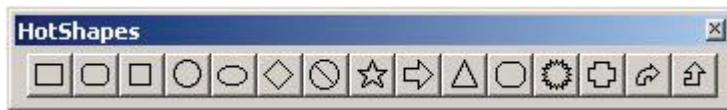

Figure 10-2. HotShapes Toolbar
1. Select **Draw>HotShapes** or click  on the *Draw* toolbar. The *HotShapes* toolbar displays (Figure 10-2).